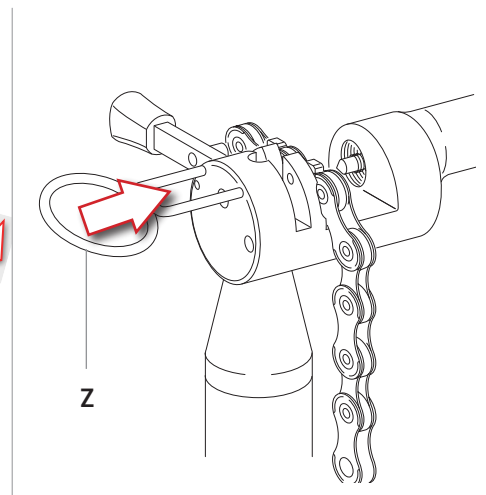

Fig.6
- clamp the link with the special clamping device (Z) (Fig. 6);